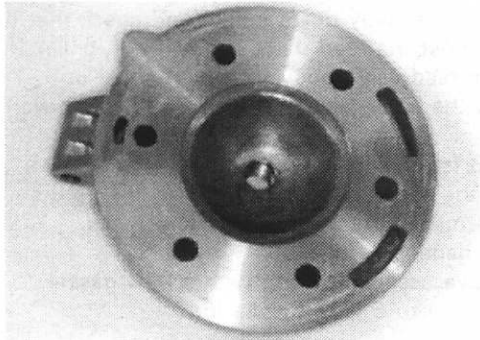

Figure 78
1. Decarbonize the combustion chamber (Figure 78) and clean all of the cylinder head gasket sealing surfaces.